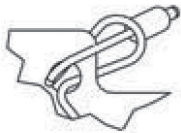
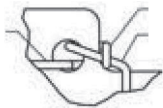

Figure 4-5. Insert the plug end of the wire through the loop.
Figure 4-6. Make sure the loop is on the side of the divider, not on top of it.
Step 3: Insert the loop created in Step 2 through the rear small hole at the top of the divider (Figure 4-4). Then, place the plug end of the wire through the loop (Figure 4-5). Make sure that the loop is on the side of the divider (not on top of it—see Figure 4-6). This will ensure that the divider will slide back into the cart. Then, tighten the loop down to the divider, tightening the knot.